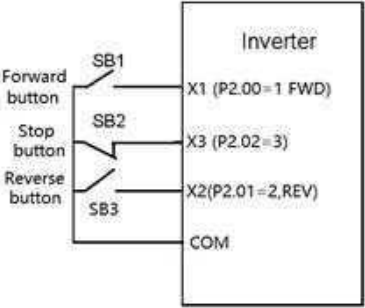

Figure 5-3-3 Three-wire control mode 1
**2:Three-wire control mode 1.**In this mode,terminal function 3 is an enable terminal.The forward run command is generated by FWD rising edge and the reverse run command is generated by REV rising edge.Function 3 is normally closed input and function 3 open will cause to stop.For example,as shown in Figure 5-3-3,P2.11=2,P2.00(X1)=1(FWD),P2.01(X2)=2(REV),P2.02(X3)=3.